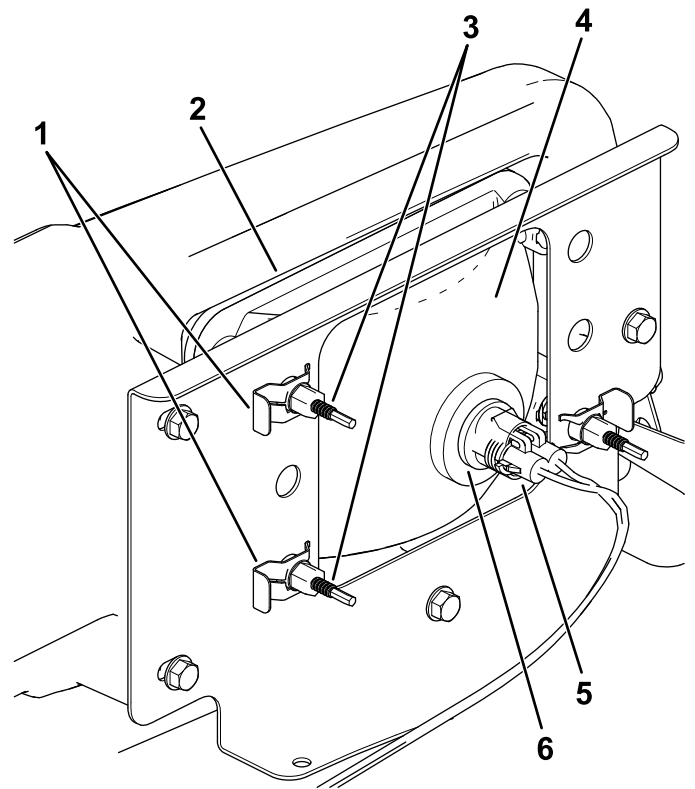

Figure 43
3. Disconnect the electrical connector for the harness from the connector of the lamp assembly (Figure 43).
4. Remove the speed clips that secure the headlight to the headlight bracket (Figure 43).
5. Remove the headlight assembly by moving it forward through the opening in the front bumper (Figure 43).
6. Install the new headlight through the opening in the bumper (Figure 43).
8. Connect the electrical connector for the harness to the connector of the lamp assembly (Figure 43).
5. At the back of the headlight assembly, rotate adjustment screws (Figure 43) to pivot the headlight assembly and align the position of the cast beam.